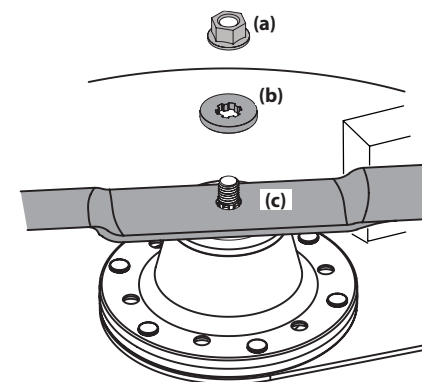

Figure 4-22
2. Remove the flange lock nut (a) and flat washer (b) from the spindle shaft, and remove the blade (c). See Figure 4-22.